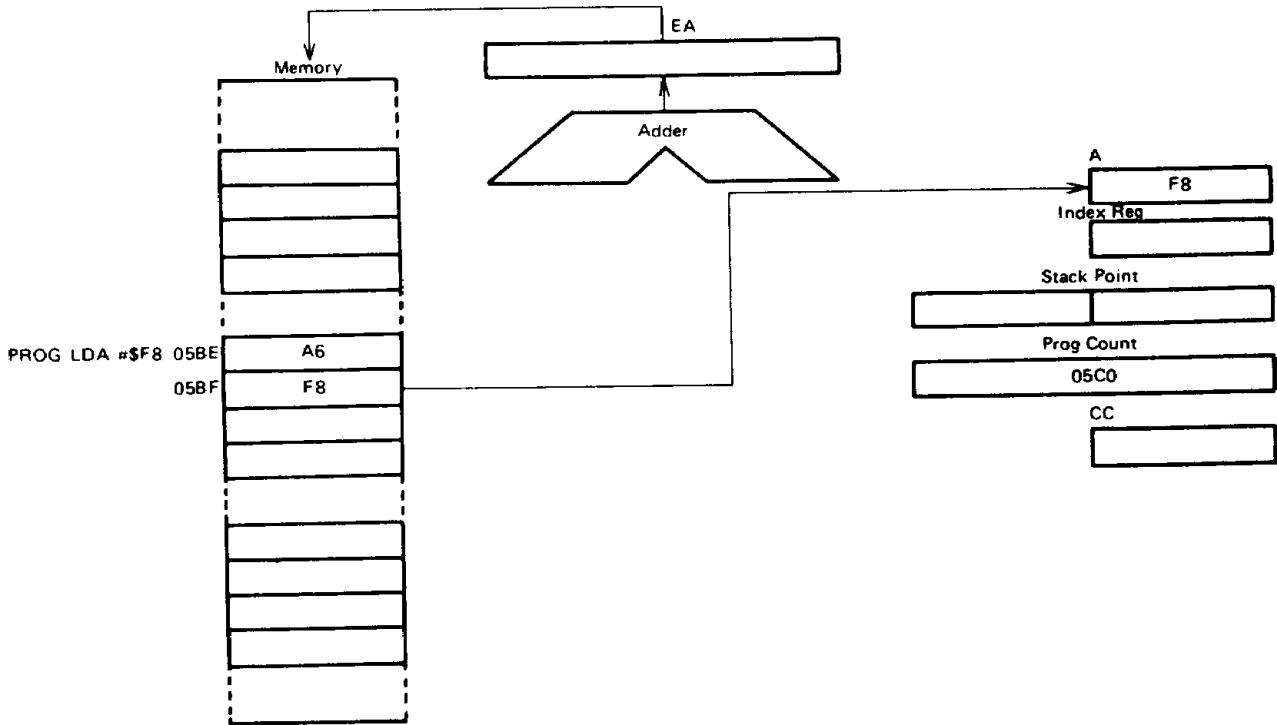

Figure 23. Immediate Addressing Example
Refer to Figure 23. The immediate addressing mode accesses constants which don't change during program execution. Such instructions are two bytes long. The effective address (EA) is the PC and the operand is fetched from the byte following the opcode.